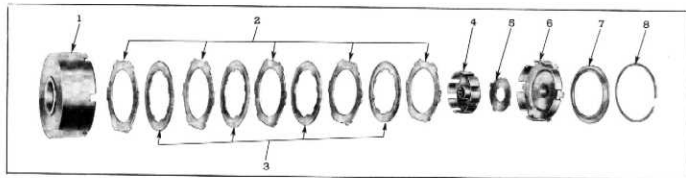

Fig. 182—Layout of Clutch Assembly
6. Figure 182 shows layout of complete clutch assembly.